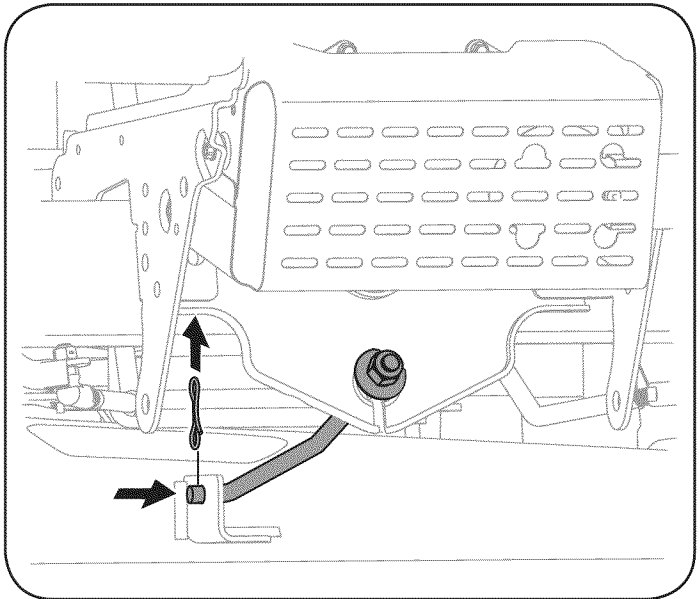

Figure 26
8. Remove the bow-tie cotter pin securing the deck stabilizer rod to the deck. Slide the deck lift rod from the mounting bracket on the deck as shown in Figure 26.